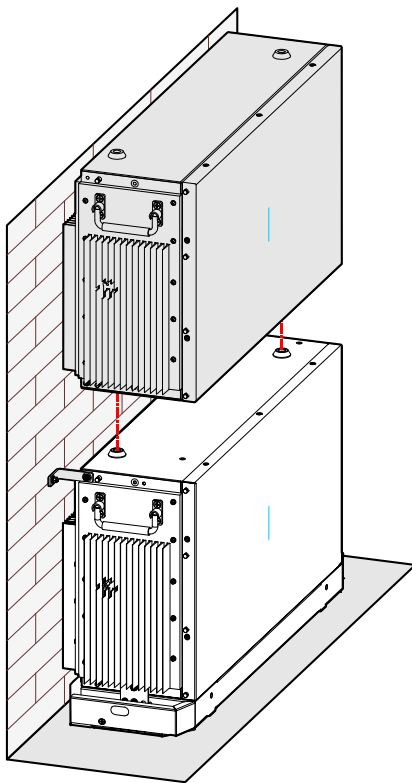

Figure 3-20 Place the battery pack
3. Place the battery against the wall, the bottom limit holes of the upper battery pack should match the screw on the top of the below battery pack, as shown in Figure 3-20.